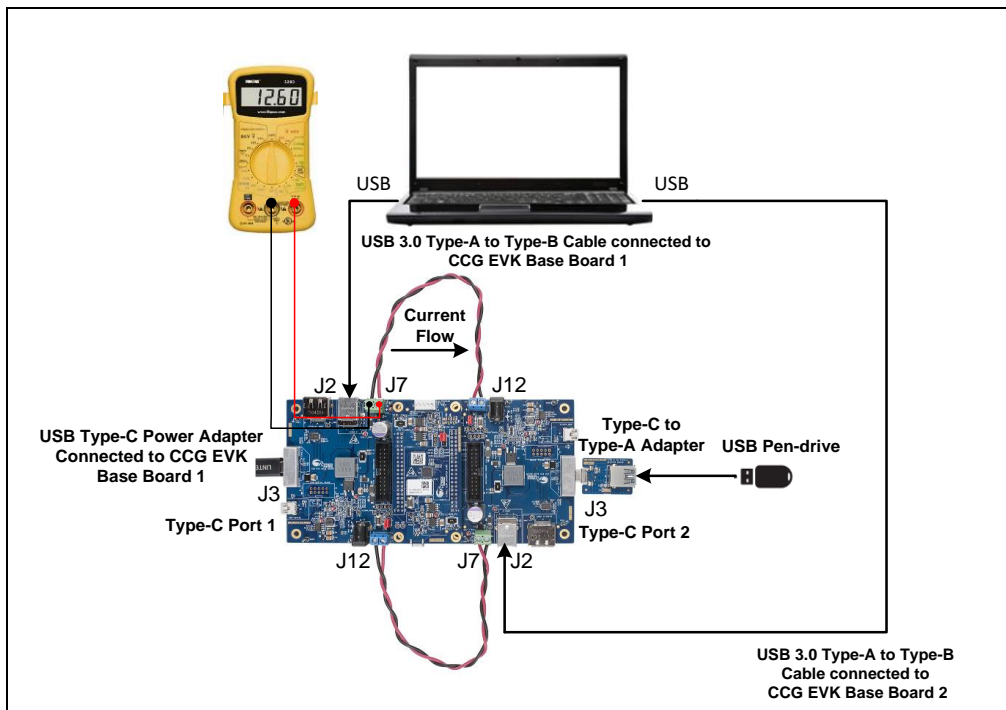

Figure 11 DRP and Dead Battery Charging Demo Setup (Scenario 1)
This section demonstrates the DRP capability of both Type-C ports on the CCG4 device using the CY4541 CCG4 EVK as shown in Figure 11. It emulates a dual Type-C port notebook design in which each Type-C port can either be a power provider or power consumer. In a CCG4-enabled notebook design, the power adapter can be connected to one Type-C port to charge the internal battery of a notebook. At the same time, a USB pen drive, display monitor, or external hard disk can be connected to the other Type-C port.
A PC with two USB 3.0 ports, a DisplayPort, and the CY4541 CCG4 EVK emulates a PD-enabled dual Type-C port PC, as shown in Figure 11. Refer to chapter 4 (“DRP Kit Operation”) of the CY4541 CCG4 EVK Guide for details on hardware connections of this setup.
- As Figure 11 shows, when the Type-C power adapter is connected to Type-C port 1 of the CY4541 EZ-PD CCG4 EVK, the CCG4 starts consuming power from the Type-C power adapter.
Dead battery condition is emulated by not connecting the DC power adapter to the EVK on J12, the onboard CCG4 is not powered, which emulates a dead battery scenario. The CCG4 can be powered by connecting a Type-C power adapter to one of the EVK's Type-C ports, as shown in Figure 11. When the CCG4 in the EVK is powered, it establishes a power contract with the Type-C power adapter and starts consuming power. This can be verified by connecting a multimeter to the power output header (J7) of the CCG base board (where the Type-C power adapter is connected) to measure the output voltage in the dead battery charging scenario. This demonstrates that a CCG4-enabled Type-C notebook can be charged even from a dead battery condition.
As shown in **Figure 11**, connect the wires between the power input header (J12) and power output header (J7) of the CCG base boards. Ensure that the voltage selection jumper (J5) is set to 5 V (pins 2 and 3 of jumper J5 on the CCG4 daughter card are shorted).
As shown in Figure 11, connect the wires between the power input header (J12) and power output header (J7) of the CCG base boards. Ensure that the voltage selection jumper (J5) is set to 5 V (pins 2 and 3 of jumper J5 on the CCG4 daughter card are shorted).